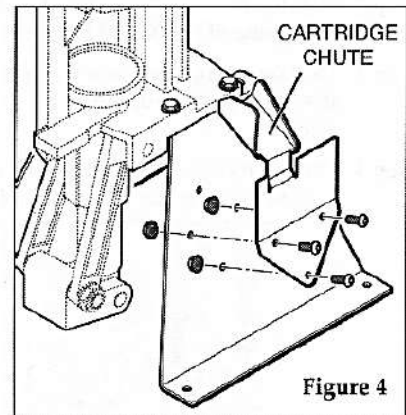

Figure 4
- Step 3 Use the three cap screws and three lock nuts install the ejected cartridge chute as shown in Figure 4.